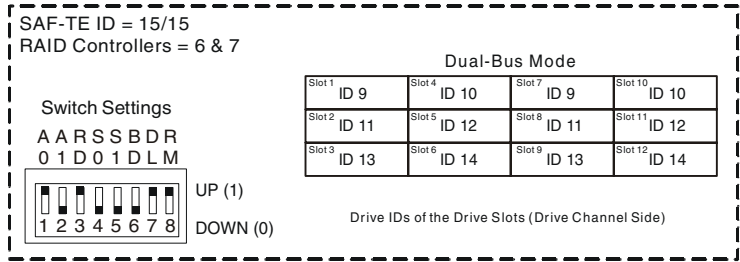

Figure C-16 Switch Setting – Dual-Bus Daisy-Chain Enclosure
- 2 Locate the switches on each card and set them as shown in Figure C-16.
The first daisy-chain enclosure is configured to dual-bus mode. It provides the drive channel expansion from the primary enclosures' disk I/O channels. Set the switches as shown in Figure C-16.